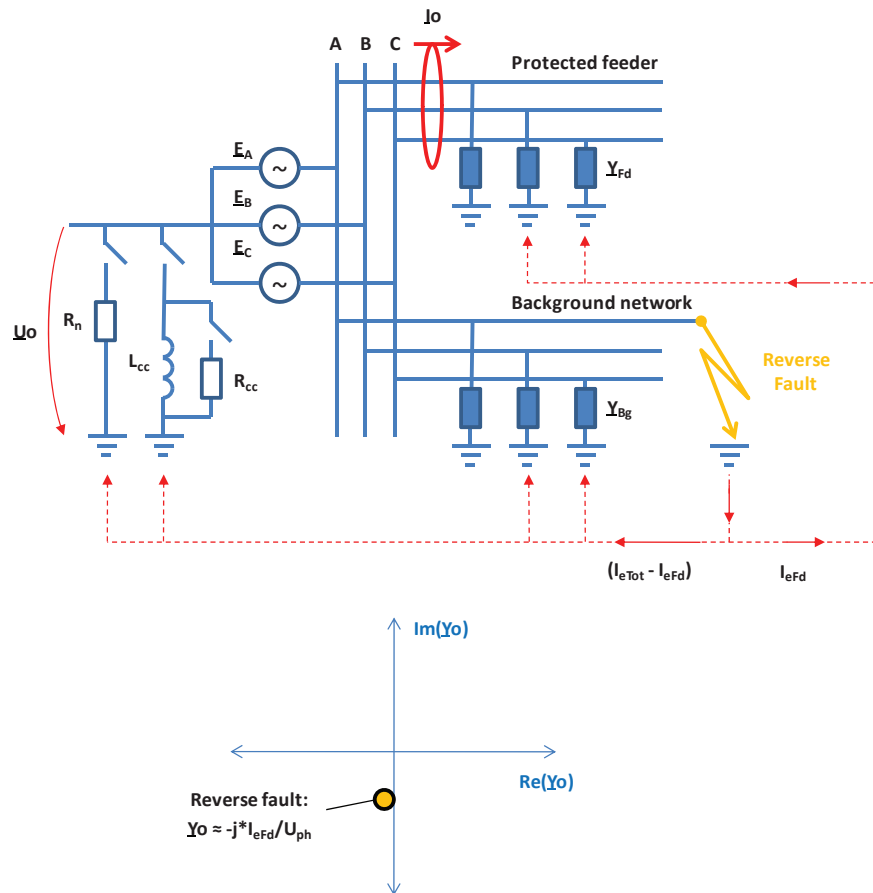

Figure 145: Admittance calculation during a reverse fault
*Equation 4* shows that in case of outside faults, the measured admittance equals the admittance of the protected feeder with a negative sign. The measured admittance is dominantly reactive; the small resistive part of the measured admittance is due to the leakage losses of the feeder. Theoretically, the measured admittance is located in the third quadrant in the admittance plane close to the  $\text{im}(\underline{Y}_0)$  axis, see *Figure 145*.